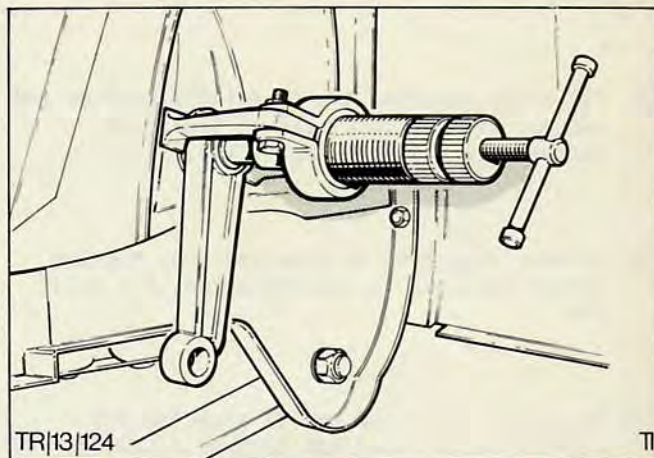

Fig.36. Remove drop arm using service tool 14 008.
2. Slacken drop arm retaining nut, using service tool 14 008 puller remove drop arm from steering box Fig.36.